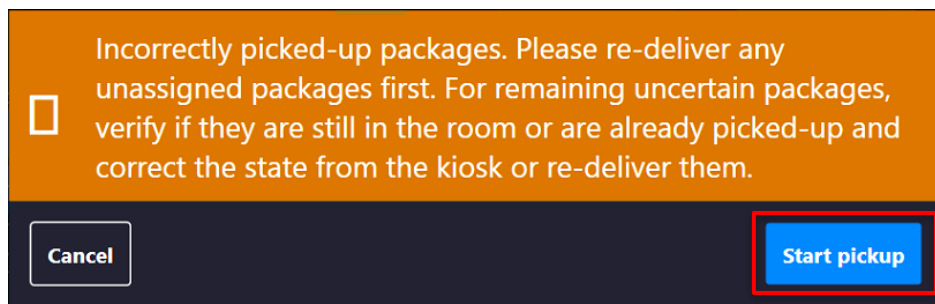

Figure 57: Start pickup for an Incorrect Pickup
- j. Tap **Start pickup**. See Figure 57.
A Confirmation Pickup message opens, see Figure 57.
4. Tap **Start pickup**. See Figure 57.